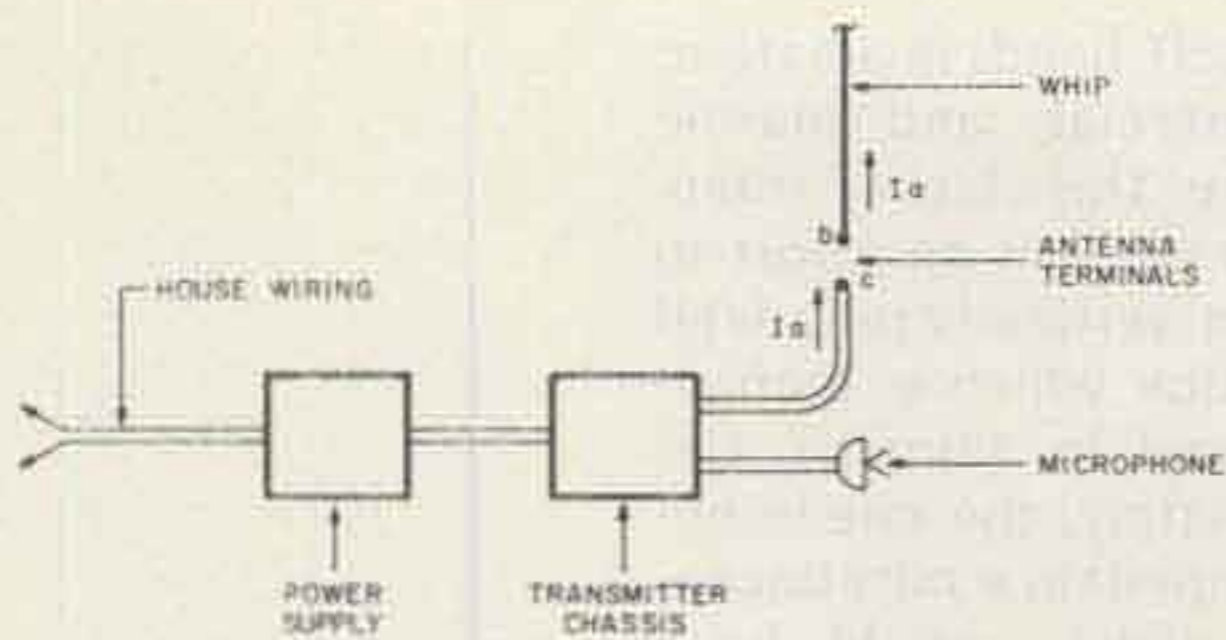

Fig. 6. The complete end-driven whip.
The antenna is really a horrendously unbalanced dipole, as shown in Fig. 6, the two sides being (1) the whip itself, and (2) the outside of the coax line all the way to the transmitter, the outer box housing the transmitter, and, very pos-
The magnitude of the antenna current at all points along the outside of the coax line is not easily predictable. One can be sure that at the feed point the instantaneous current, I_a , entering the whip must be exactly equal to the antenna current at the extremity of the outer conductor of the coax line (see Fig. 6). Below the feed point, the current on the outside of the coax will probably be in the form of standing waves produced by reflection processes at the bottom end of the coax-transmitter system. At the antenna terminals, the standing-wave amplitude on the outside of the coax could produce a current maximum (resonance), current minimum (anti-resonance), or anywhere in between. If there are many wavelengths of coax between the transmitter and the antenna terminals, there will be only a small percentage difference in frequency between resonance and anti-resonance. The degradation of the radiation pattern is highest for antiresonance conditions on the cable, at which time the resulting radiation pattern in the vertical plane will be broken up into a mass of lobes. Additional degradation will result from power loss where the coax line is in close proximity to lossy materials, such as the wall of a house, the ground, etc. Also, horizontal runs of the coax between the antenna